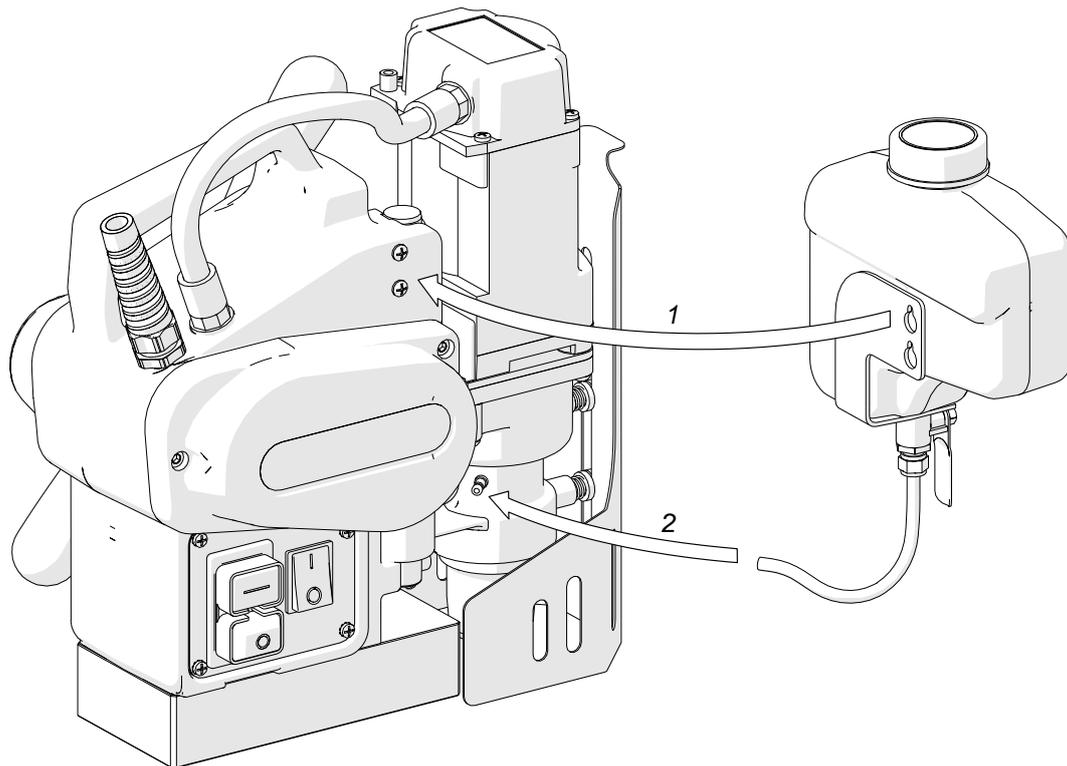

Figure 6. Mounting the cooling system bottle
Hang the cooling system bottle on the screws (1, Figure 6) and attach the bottle hose to the coupling (2). Dismount in reverse order.